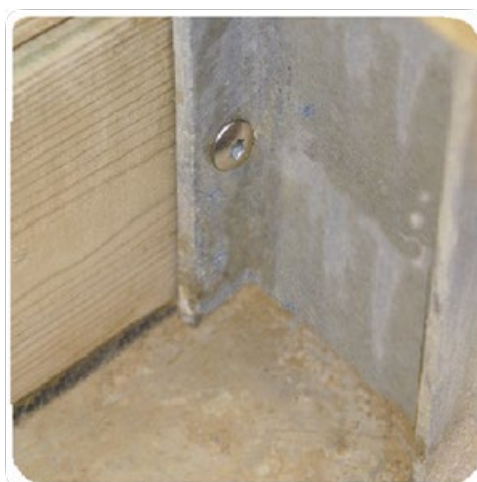

Figure 11 – Fastening the slats to the supporting braces
- fix them to the 4 supporting braces (these are pre-drilled as shown in Figure 11) using 36 torx safety screws 6 × 30 A2 SS (bag D).